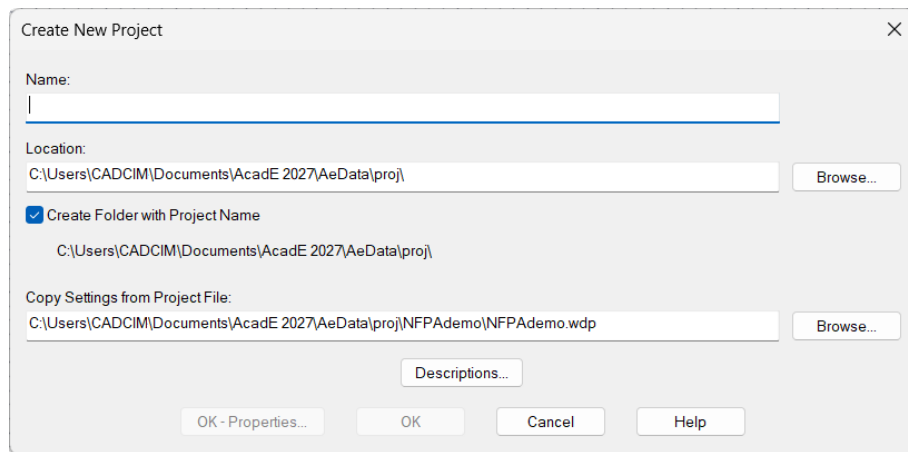

Figure 2-60 The *Create New Project* dialog box
3. In the **PROJECT MANAGER**, make sure the **Projects** tab is chosen. Next, choose the **New Project** button; the **Create New Project** dialog box is displayed, as shown in Figure 2-60.